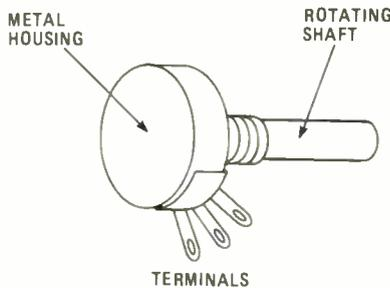

Fig. 17—A conventional potentiometer uses a moveable arm as the resistor tap.
35. In many circuits, it is possible to vary the resistance in a circuit for the purpose of controlling the current in the circuit or setting the output voltage to a desired value. Variable resistors are used for this purpose. A variable resistance is a component whose resistance value can be conveniently changed. The most commonly used variable resistance is called a potentiometer (or pot for short). A typical pot is illustrated in Fig. 17.